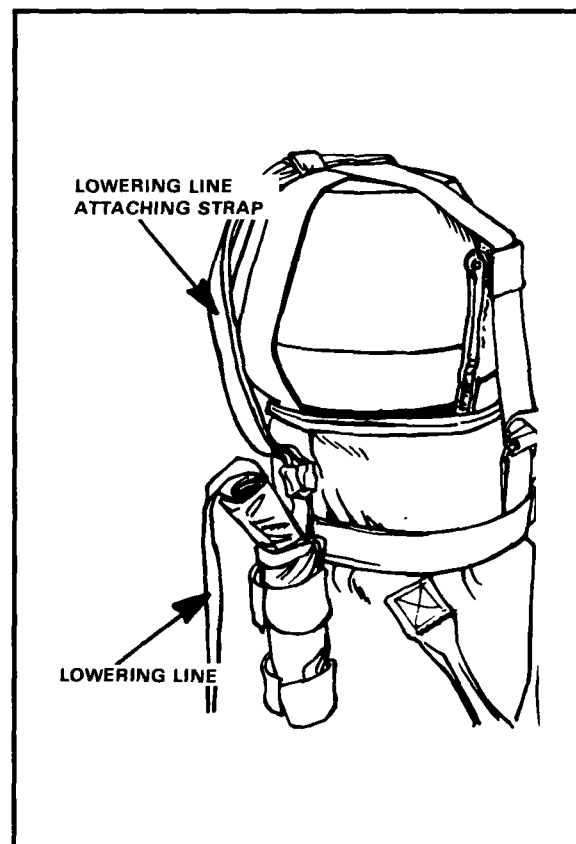

Figure 6-40. Lowering line attached.
(1) Attach the lowering line to the lowering line attaching strap by routing the loop of the lowering line through the loop of the lowering line attaching strap (Figure 6-40). Route the lowering line through its own loop and pull tight, forming a girth hitch.